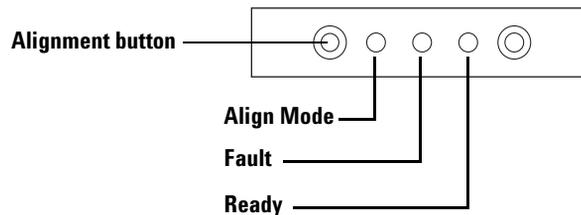

Figure 106 Align the Sample Tray
- 1 Use a long, narrow object (such as a pen tip) to press the recessed Alignment button to the left of the indicator lights. Avoid contact with anything behind or around the button inside the recessed hole (Figure 106).